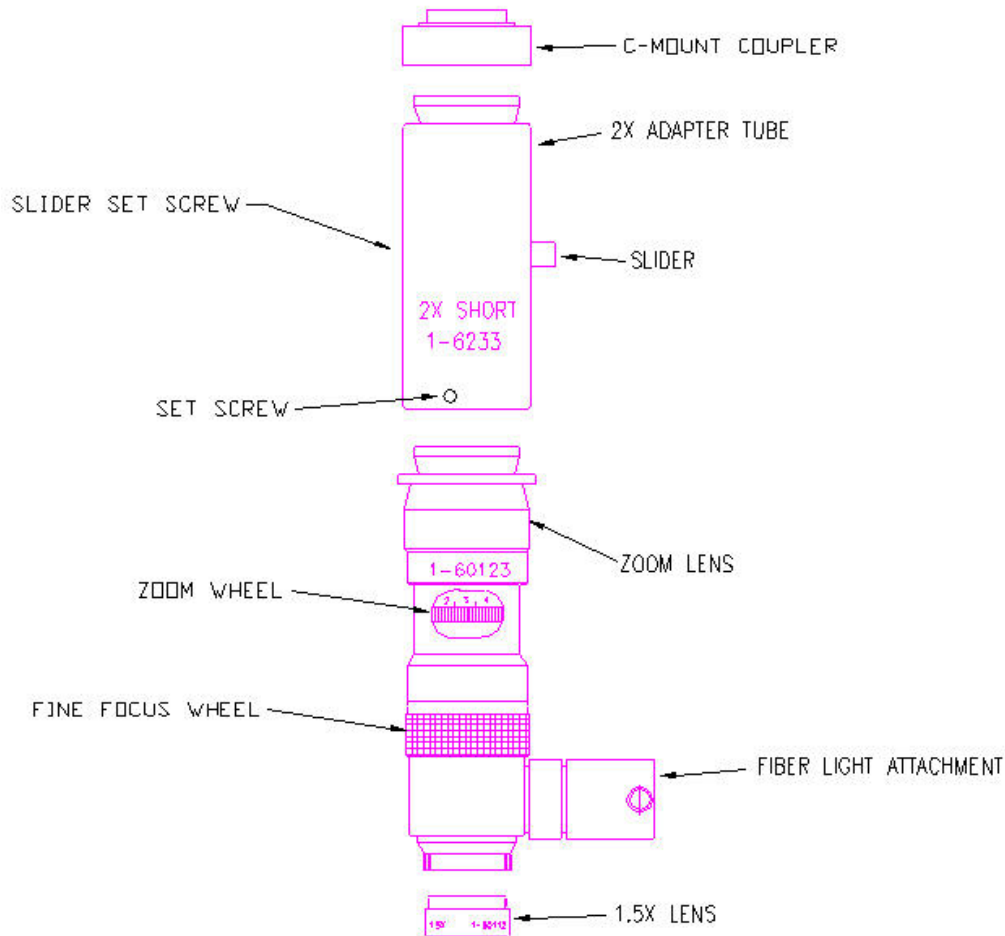

Figure 1 (Camera and lens assembly)
See **Figure 1** below for more information.
1. Loosen the side set screw on the body of the zoom lens (see **Figure 1**).